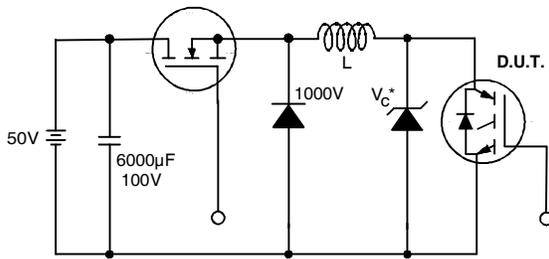

Figure 19. Clamped Inductive Load Test Circuit
- ② $V_{CC}=80\%(V_{CES})$, $V_{GE}=20V$, $L=10\mu H$, $R_G = 100\Omega$ (figure 19)
- ③ Pulse width $\leq 80\mu s$; duty factor $\leq 0.1\%$.
- ④ Pulse width $5.0\mu s$, single shot.